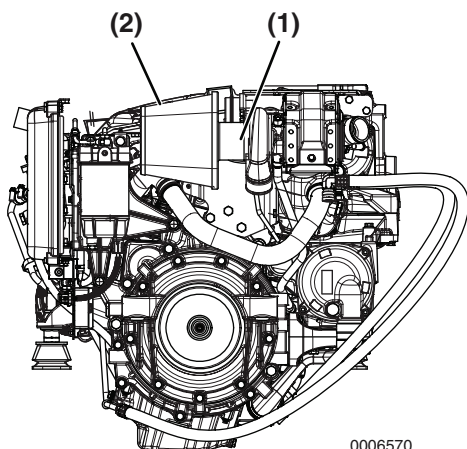

Figure 4-10
3. Remove clamp (**Figure 4-10, (1)**).
4. Remove air filter (**Figure 4-10, (2)**).